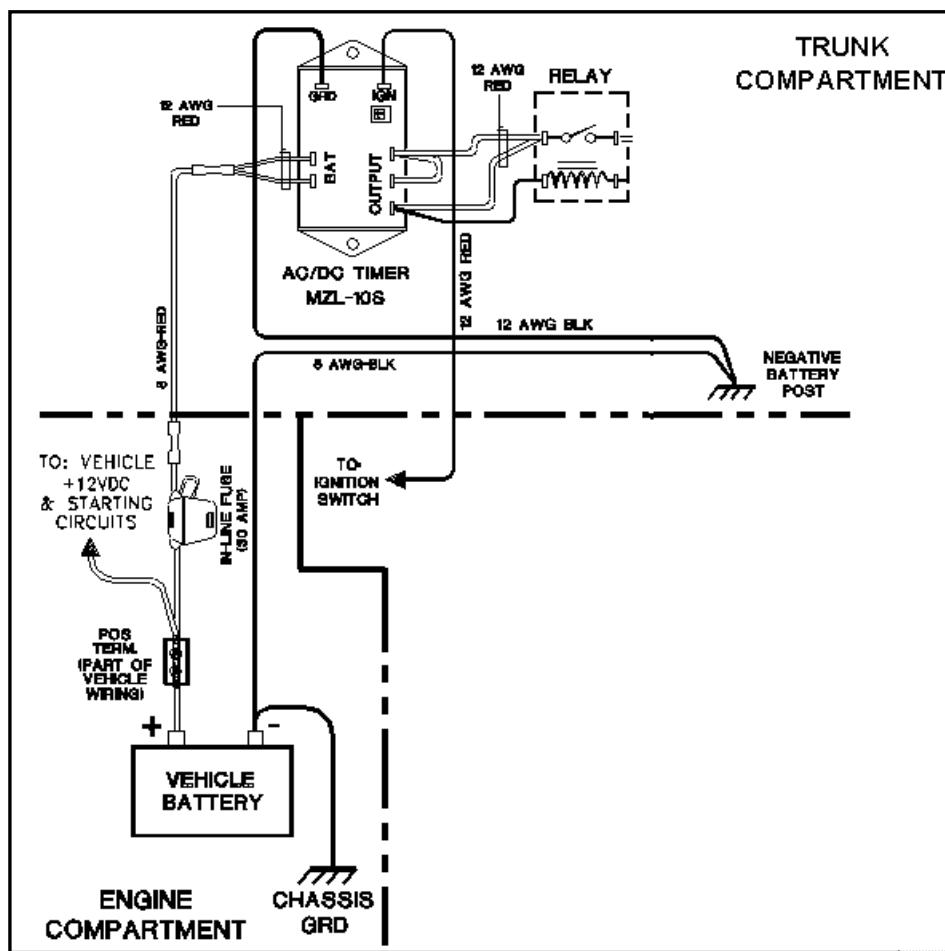

Figure 13: Delay Timer Installation
Step 2 Route the black wire (#12 AWG) from ground connection on the Delay Timer to the vehicle chassis (see Figure 13).
Step 4 Route a red wire (#12 AWG) from the ignition connection on the Delay Timer to the ignition switch in the driver compartment (see Figure 13). The ignition wire should be fused with 2A fuse.
Step 7 Route and wire a red (#12 AWG) wire from the last output connection on the Delay Timer to the Automotive Power Relay coil at the position shown in Figure 13.